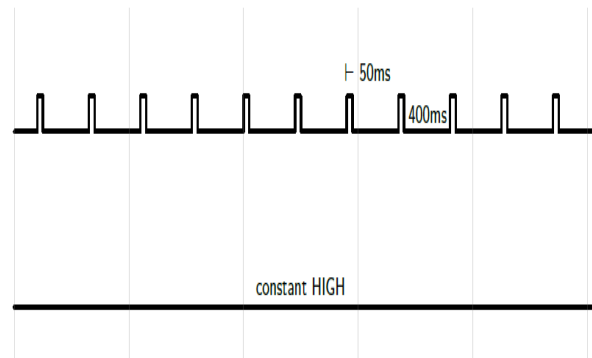

Figure 2.15 Low battery indicator timing
- Pulse patterns are shown in the Figure 2.15 Low battery indicator timing.